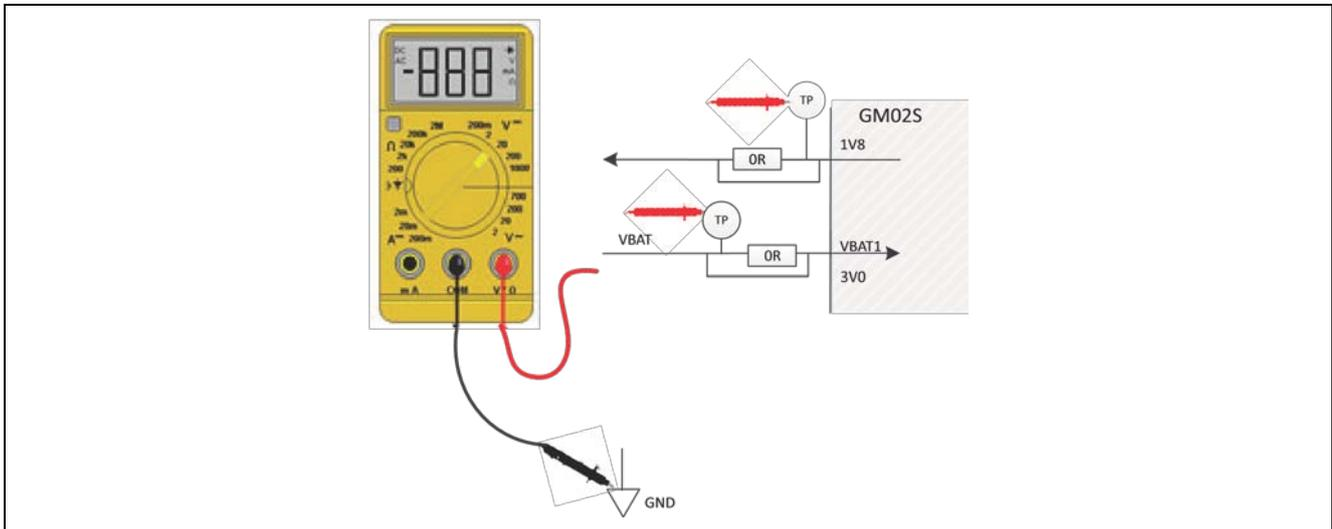

Figure 23. Measuring Voltage Value (RYZ024A)
Check at each voltage test point, as illustrated on Figure 23, that the voltage value corresponds to what is expected. The value of VBAT1 must be in the range specified in the *RYZ024A Datasheet*, section *Electrical Operating Conditions*.
2. Confirm voltages of the power supplies remain in line with the specifications from the datasheet. See the test points involved on Figure 23.